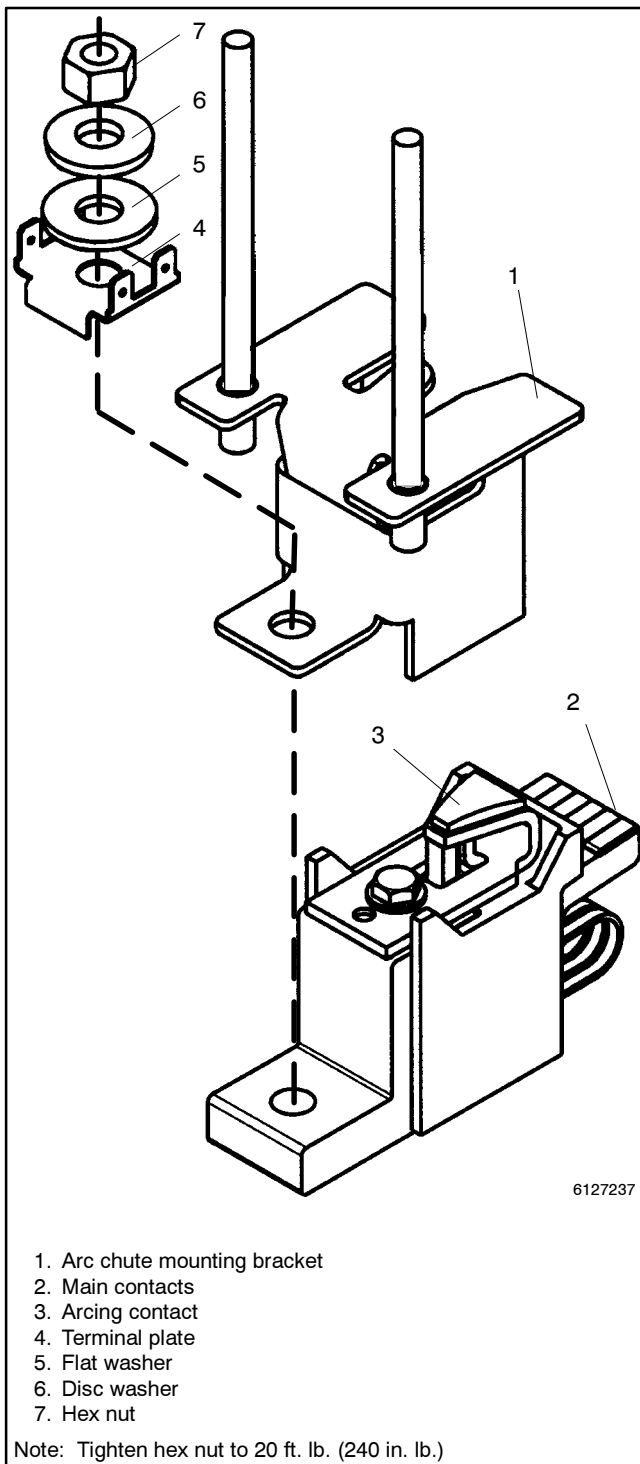

Figure 8-15 Stationary Contact Assembly
1. Remove the stationary contact assembly. Use a 3/8 in. socket wrench with 12 in. extension to remove the hex nut from the base of the stationary contact assembly. Then remove the washers, quick connect terminal plate, and stationary contact assembly from the stud in the bus plate. See Figure 8-15.
2. Install the new stationary contact assembly. Make sure the bus plate and contact assembly surfaces are clean (do not use any abrasive). Position the new stationary contact assembly onto the stud in the bus plate. Use a 3/8 in. socket wrench with 12 in. extension to install the new quick connect terminal plate, new heavy flat washer, new heavy disc washer (curved surface out), and new 3/8 in. hex nut to secure the assembly. Tighten to 27.1 Nm (20 ft. lb.) torque. See Figure 8-15.